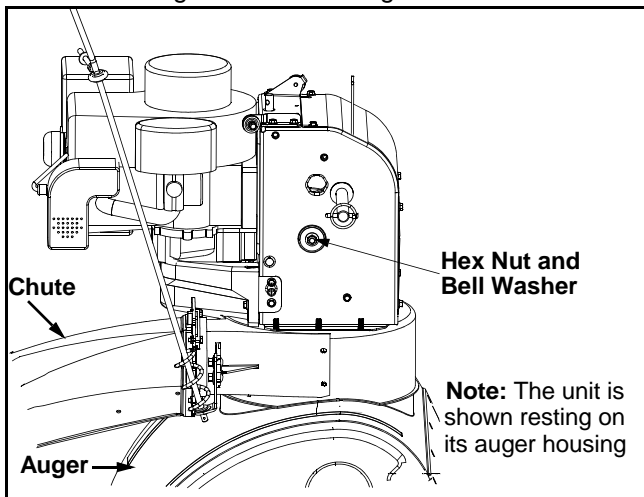

Figure 24
- Using a wrench to hold the shaft, loosen, but do not completely remove, the hex nut and bell washer on left end of gear shaft. See Figure 24.